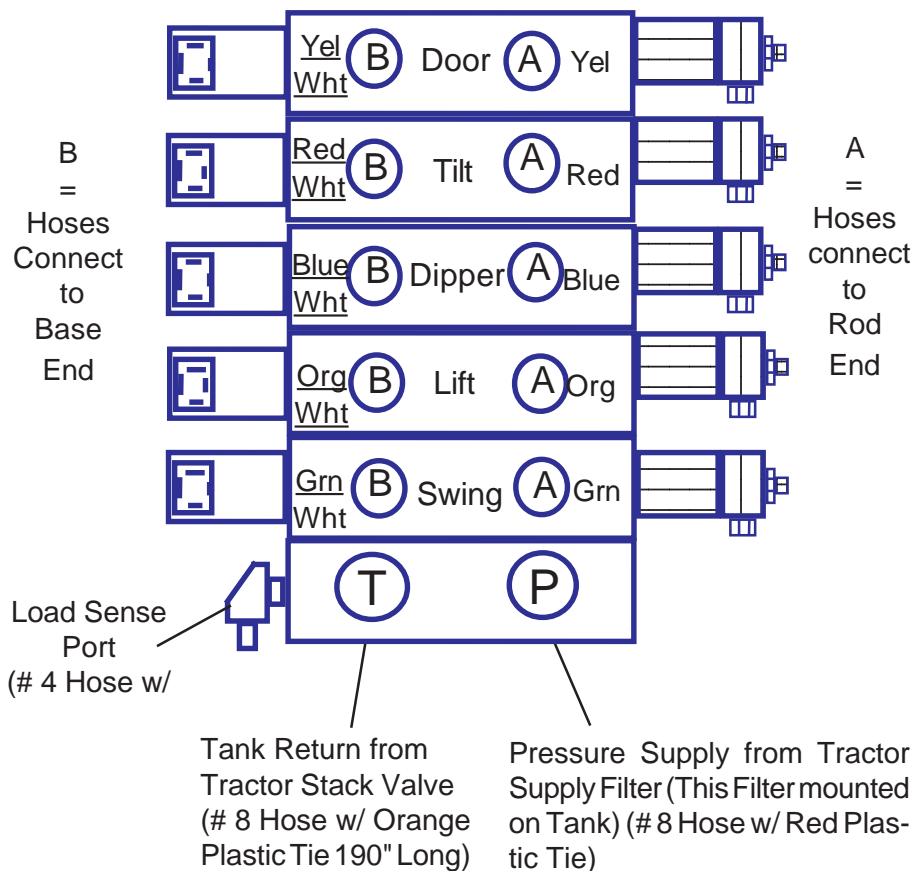

Figure 15
3. Connect Cylinder Hoses To Control Valve. These Hose connections from Cylinder to Valve will match the Color Plastic ties on hose and match them with the Color in the drawing below (See Figure 15). Hose must be run where they will not interfere with Boom Movement or be hooked on something during use. Start with the Swing Cylinder and Connect the Hoses as you go up, connect and tighten a Left hose (Hoses with solid color Plastic ties) to the Left side then the Hose with the plastic tie that has a white stripe next. Put both hoses on for one Cylinder before you go up to the next. If not it is very difficult to tighten the Hose because the other one will interfere. The Hoses will be connected to the Boom Assembly already, so only the Hoses to the Valve should need to be connected. There are Hoses that are used as extensions in some Kits to make the Hoses reach the Valve. If Kit contains extension hoses they will be the same color ties to match the hoses you have. Connect the Extension hoses together with the other hoses and connect these to the Valve.
4. This is a 5 Spool Load Sense Valve. Only the Load Sense Valve will have the Load Sense Port (See Figure 15). If the valve does not have this load sense Port it is most likely a Fixed Displacement valve and will not work for this application. This valve should be easy to spot if it is wrong as one of the first hoses that should have been connected to it was the Load Sense Hose that runs from the Stack valve at the rear of the tractor.